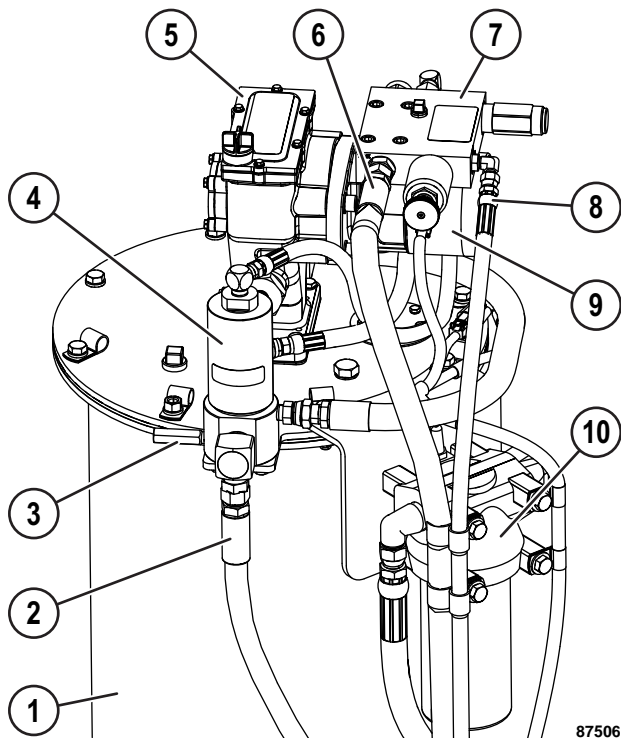

FIGURE 10-1. AUTO LUBE PUMP AND RESERVOIR COMPONENTS
Hydraulic oil for pump operation is supplied through the auxiliary hydraulic system. Grease pump (5, Figure 10-1) is driven by the rotary motion of hydraulic motor (9), which is then converted to reciprocating motion through an eccentric crank mechanism. The pump is a positive displacement, double-acting type as grease output occurs on both the up and the down stroke.